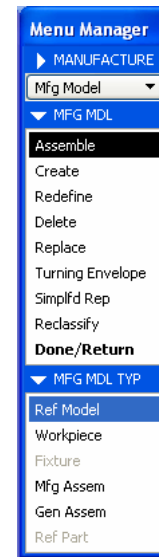

Figure 3b: Reference Model
Step 3: Select **MFG MODEL >> ASSEMBLE >> Ref MODEL** on the Menu Manager. (Figure 3b)